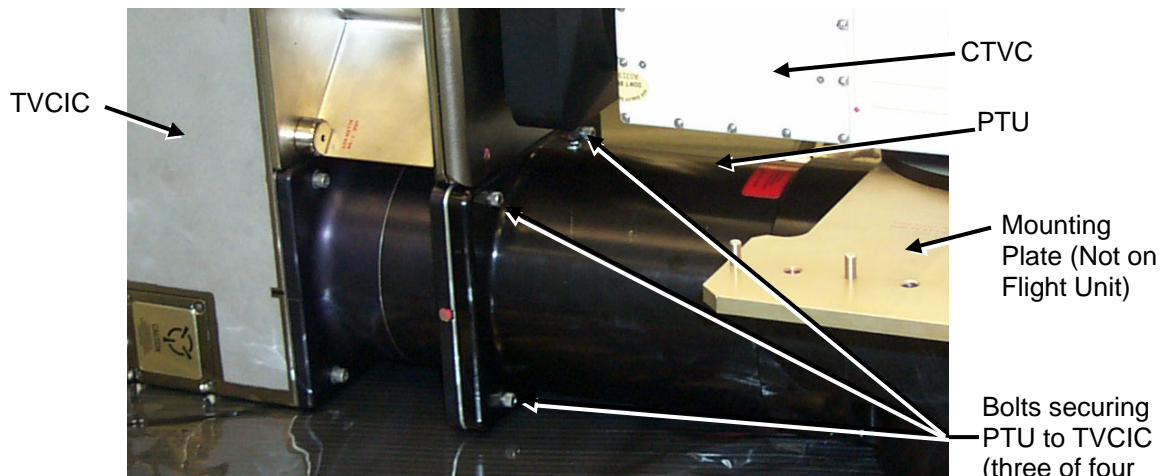

Figure 5.- Close up View of TVCIC, PTU Interface (ETVCG Shown Assembled).
3.8 Install TVCIC on PTU, bolts (four) (Ratchet, 1/4" drive; 1/4" to 3/8" Adapter; 3/16" Hex Head, 3/8" Drive). Refer to Figures 5 and 6.